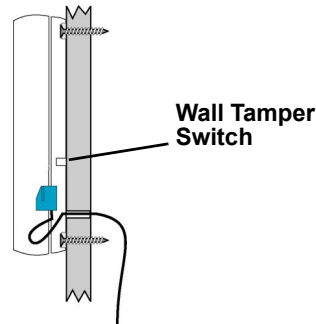

Figure 4 Mount the transmitter to the wall
1. Route the external wiring through the wall, as shown in Figure 4.